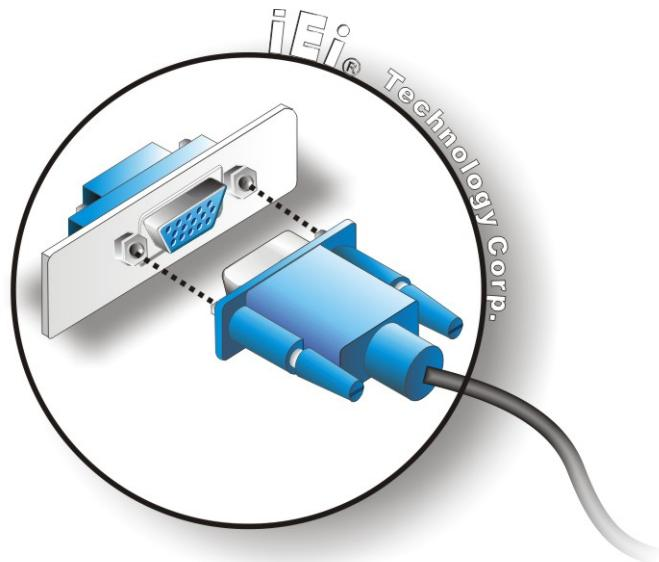

Figure 4-17: VGA Connector
Step 3: Insert the VGA connector Once the connectors are properly aligned with the insert the male connector from the VGA screen into the female connector on the KINO-CV-D25501/N26001. See Figure 4-17.